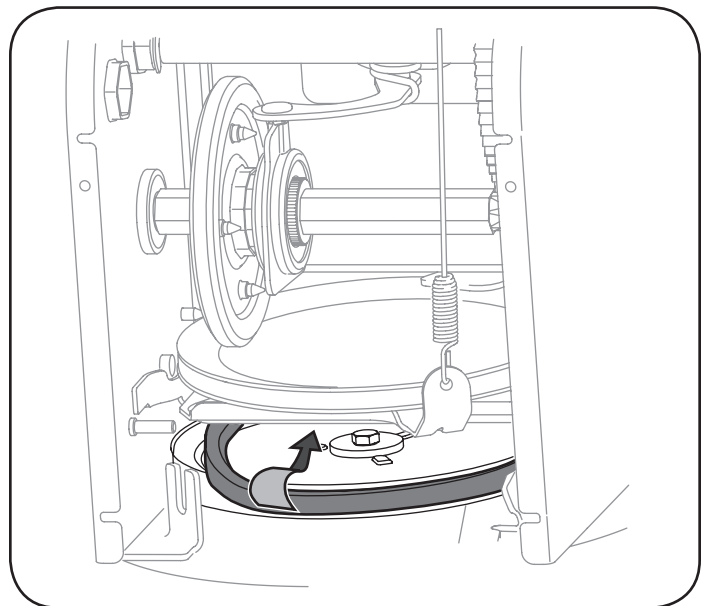

Figure 32
- Remove the belt from around the auger pulley, and slip the belt between the support bracket and the auger pulley. See Figure 32.